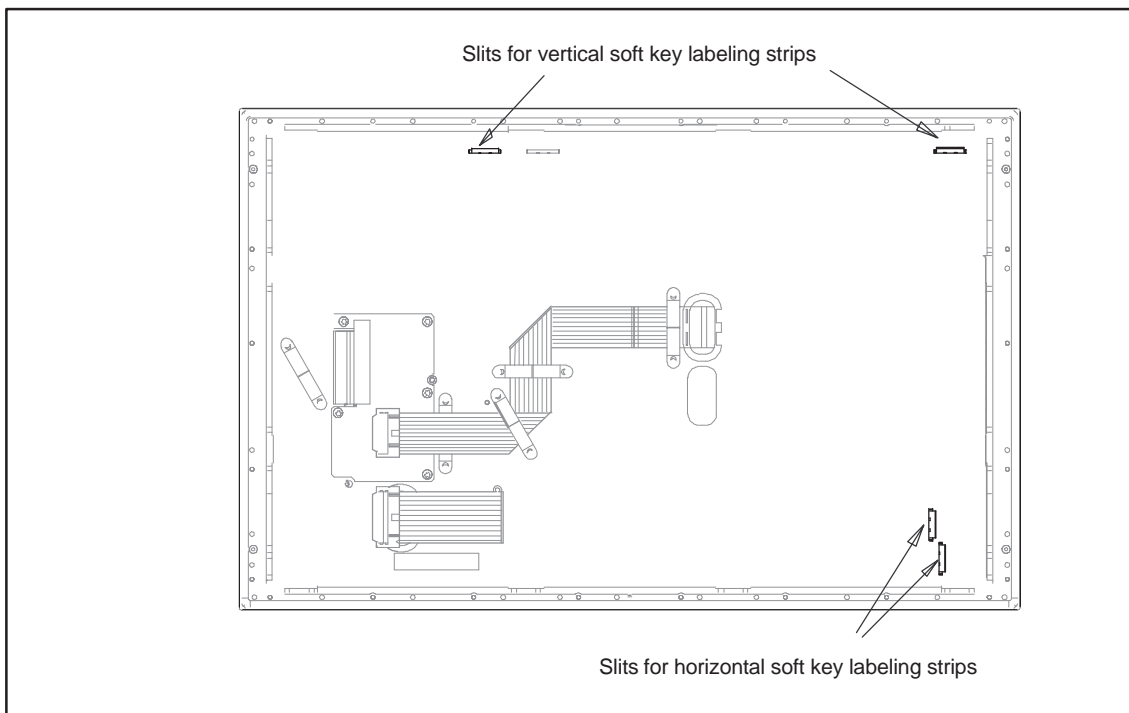

Fig. 4-5 Rear side of the operating unit with connections and slits for the soft key labeling strips
3. Insert the strips through the slits provided on the rear side of the operating unit (see Figure 4-5).